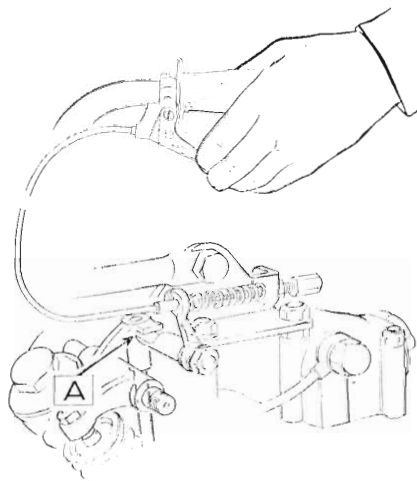

FIGURE 12.
It is essential that the cable length is adjusted so that there is always ample clearance between the lobe on the exhaust rocker arm and the lifter spindle at (A) Fig. 12.